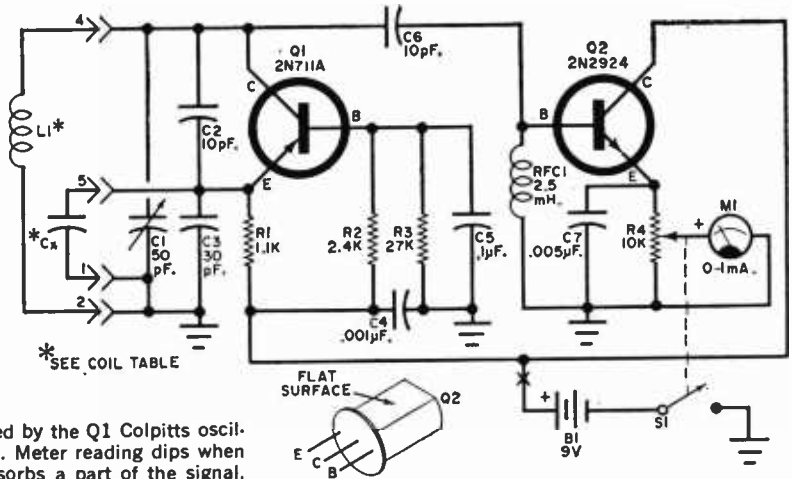

Fig. 1. Signal generated by the Q1 Colpitts oscillator circuit drives Q2. Meter reading dips when an external circuit absorbs a part of the signal.
**How It Works.** The *Emitter Dipper* has two simple transistor circuits: a Colpitts oscillator ( $Q1$ ), and an emitter-follower ( $Q2$ ). Variable capacitor  $C1$  provides the EDO with a VFO capability, and any frequency within range can be quickly obtained. Frequency of oscillation is determined by the value of the plug-in coil ( $L1$ ) and the setting of  $C1$  (see Fig. 1). Capacitors  $C2$  and  $C3$  form the feedback network to sustain oscillation. Capacitor  $Cx$ , mounted in four of the five plug-in coils, helps estab-